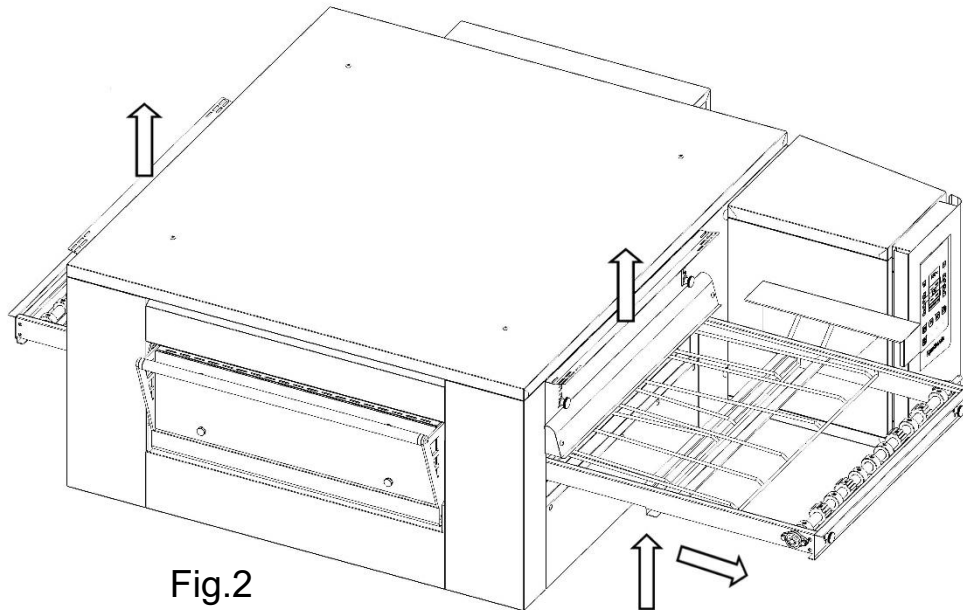

Fig.2
Select the desired cooking program by means of the keys (Fig.2). For programming, see section 4.3.1.
6. Raise the shutters at the entrance and exit to the point of maximum aperture (See Fig.2 paragraph 8.2.1).
7. Lift the wire mesh conveyor belt from both ends and remove it in the direction of the controls (see Fig.2 paragraph 8.2.1).
Raise the shutters at the entrance and exit to the point of maximum aperture (Fig.2).
6. Lift the wire mesh conveyor belt from both ends and remove it in the direction of the controls (Fig.2).